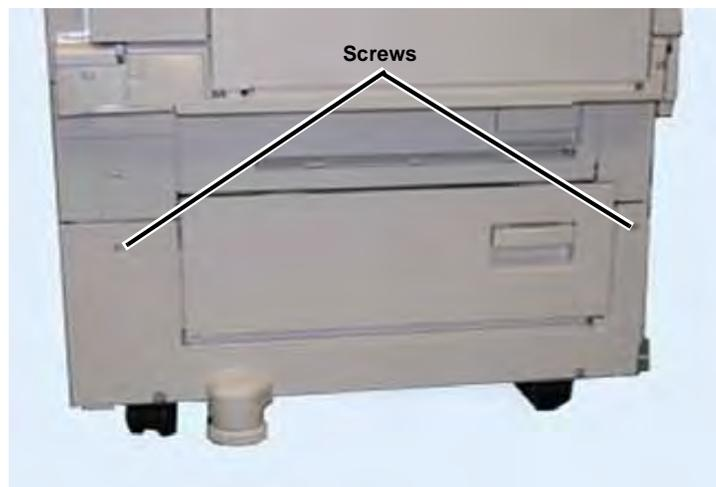

Figure 1 Covers
3. Perform the following (Figure 1).